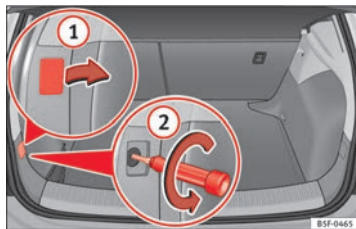

Fig. 196 Luggage compartment: location of the bolt securing the tail light unit.
- Remove the cover by prying the flat side of a screwdriver into the recess and remove the cover from the opening ⇒ Fig. 196 ①.
- Carefully loosen the screw located behind the cover with a screwdriver, turning it anti-clockwise (arrows) ⇒ Fig. 196 ②.